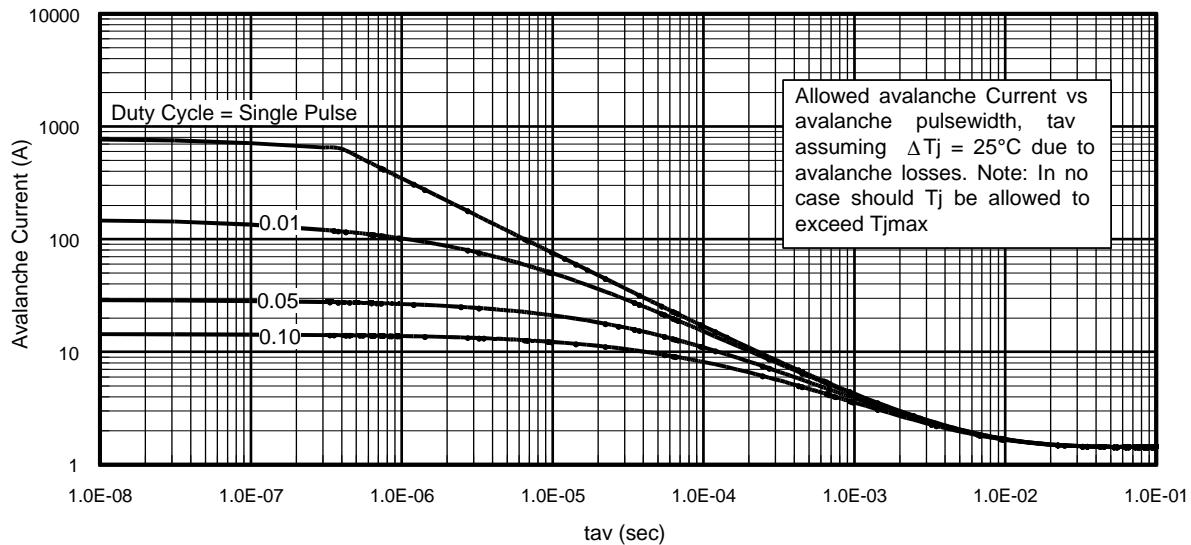

Fig 15. Typical Avalanche Current Vs.Pulsewidth
Notes on Repetitive Avalanche Curves , Figures 15, 16:
7.  $\Delta T$  = Allowable rise in junction temperature, not to exceed  $T_{jmax}$  (assumed as  $25^\circ\text{C}$  in Figure 15, 16).